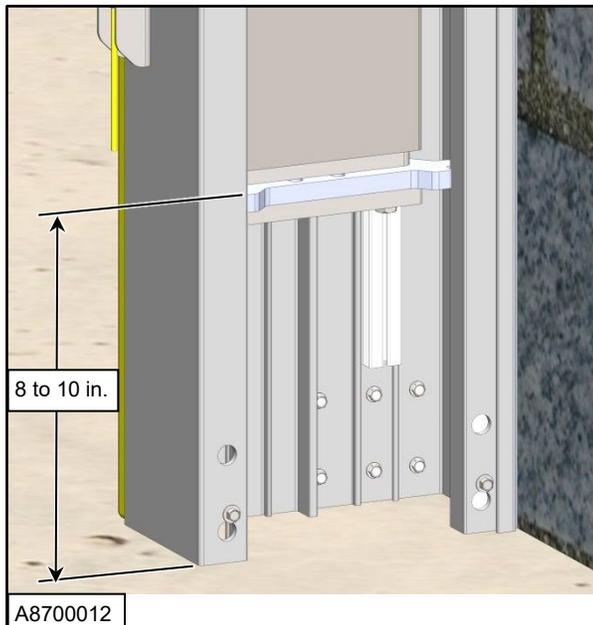

Figure 43
4. With the door panel in the fully open position, the counterweights should be positioned 8 to 10 in. above the bottom of the side column. (See Figure 43)
5. To adjust the counterweights, securely block the counterweights in the position indicated in Figure 43.
NOTE: With the door fully closed, there should be at least 3 inches of clearance between the foam of the counterweight and the foam at the upper end of the side column (See Figure 43). With the door fully open, the counterweight guides must be properly positioned. Make any necessary adjustments to properly position either counterweight .